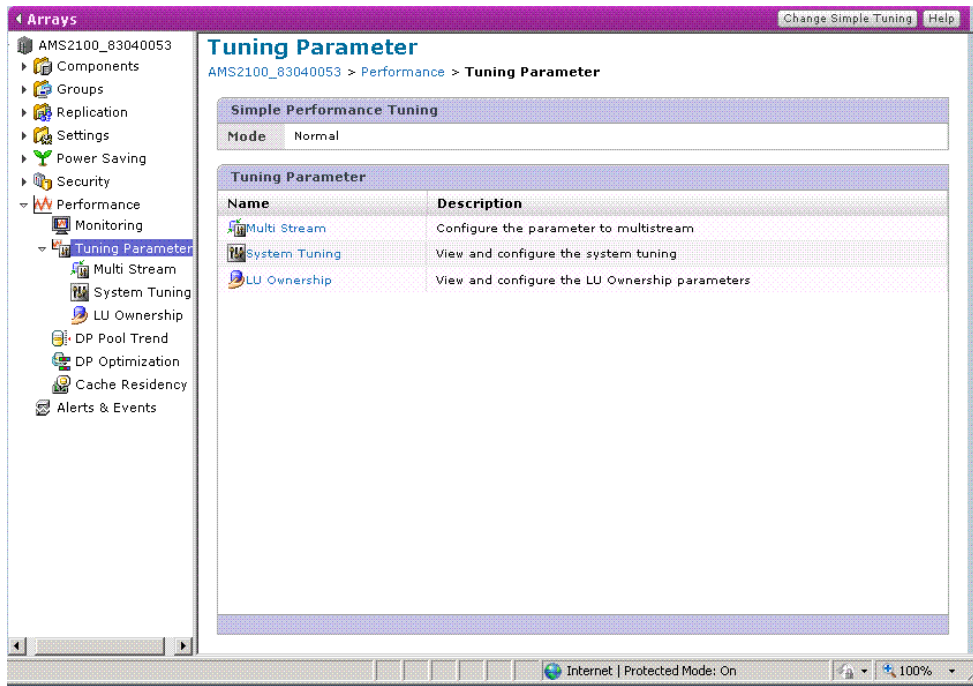

Figure 9-14: Tuning Parameters window
- Click **Tuning Parameters**. SNM2 displays the Tuning Parameters window as shown in Figure 9-14.